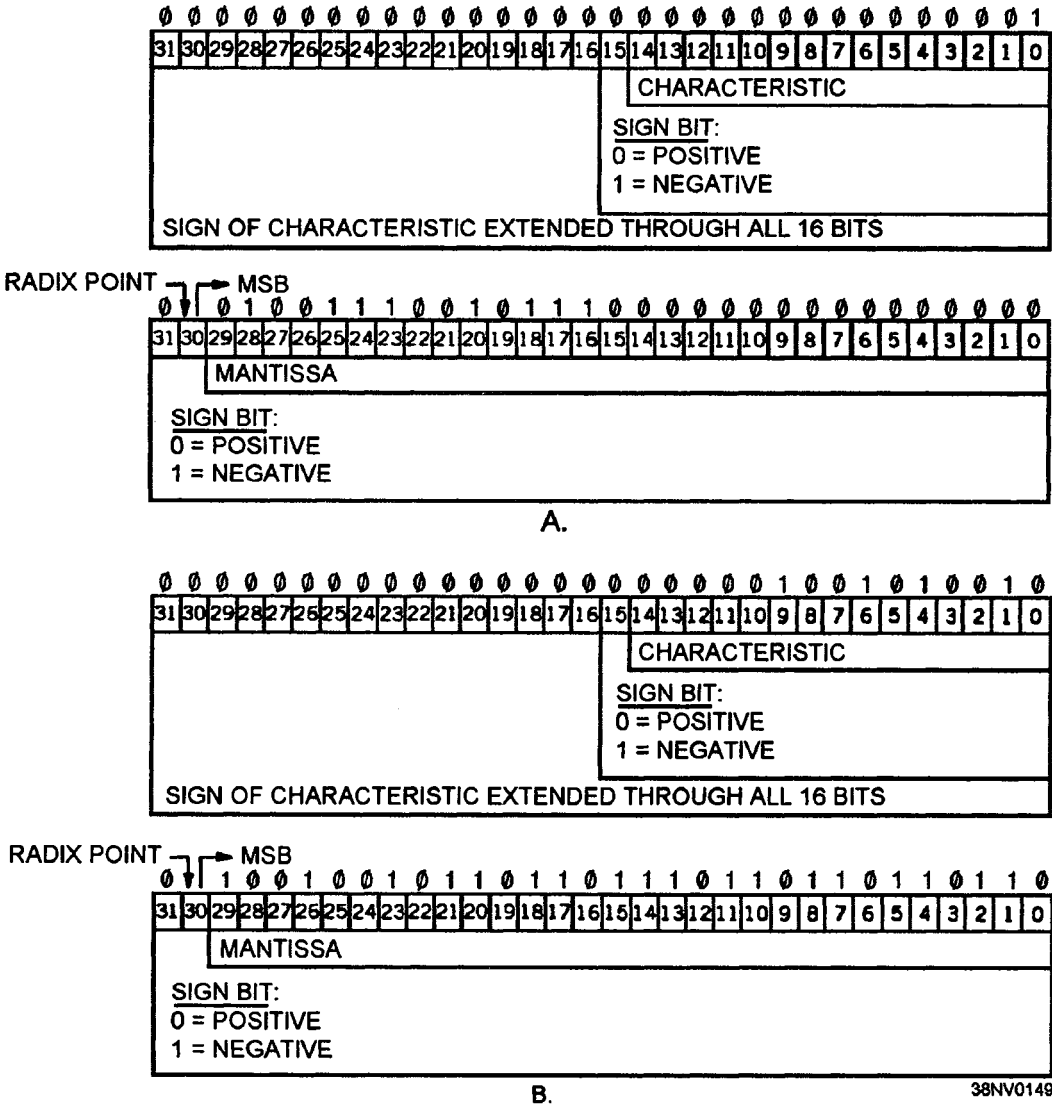

Figure 5-16.—Floating-point numbers: A. Single precision; B. Double-precision.
**FLOATING-POINT PRECISION.**— Floating-point formats include the use of single- and double-precision (refer to figure 5-16, frames A and B). The names single- and double-precision imply their usefulness: **precision**. Notice the double-precision floating-point format, two 32-bit words where the characteristic is small compared to the mantissa in which precision accuracy is required.